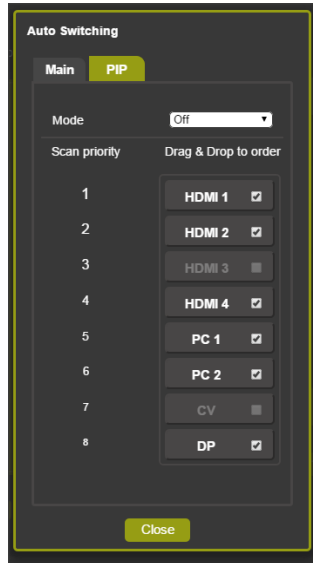
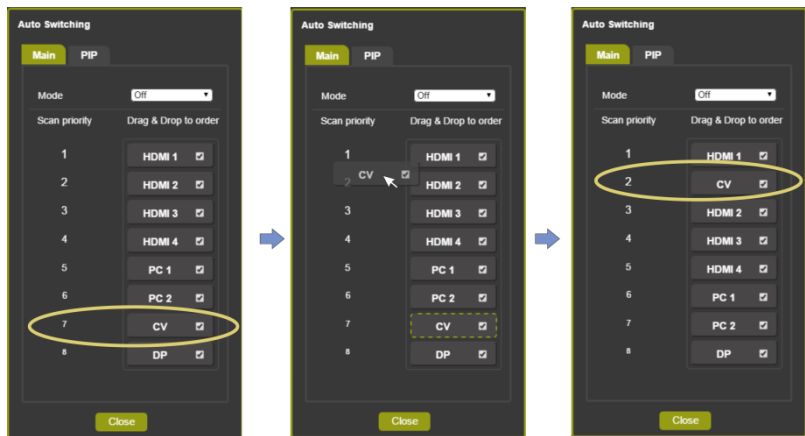

Figure 45: The Routing & Scaling Page – selecting the Inputs to Scan (PiP Tab)
Figure 46: The Routing & Scaling Page – Auto Switching Window
- **Scan** mode to scan through the inputs in search of a valid input signal. In the scan mode you can select which of the inputs will be included in the scan (see Figure 45) and also change the order of the scanned inputs (see Figure 46)
You can change the priority order as well by dragging an input button and dropping it in a new location, as illustrated in the example in Figure 46. In this example, CV is moved up in the priority list to be scanned for a valid input after HDMI 1.